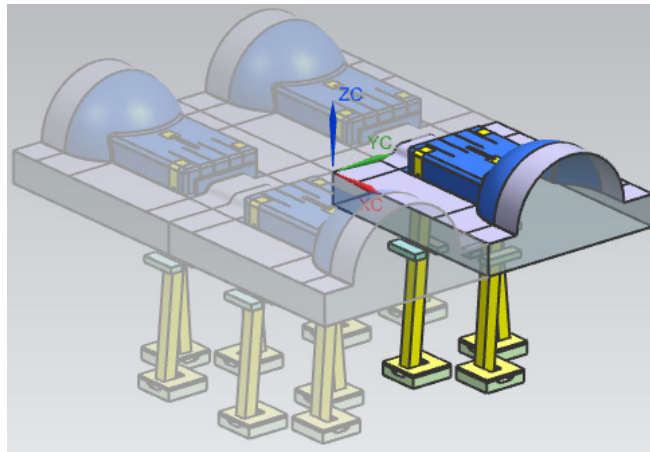

Figure 16-116 The arrangement of lifter
- Choose the **OK** button to close the **Slide and Lifter Design** dialog box. Refer to Figure 16-116 for arrangement of lifter and repeat the same procedure for other lifters.